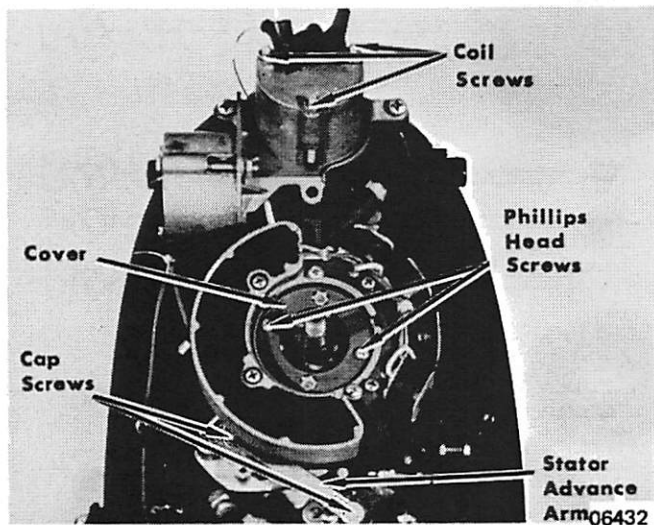

Figure 1. Removing Stator Advance Arm
- a. Remove cap screw from stator advance arm. (Figure 1)